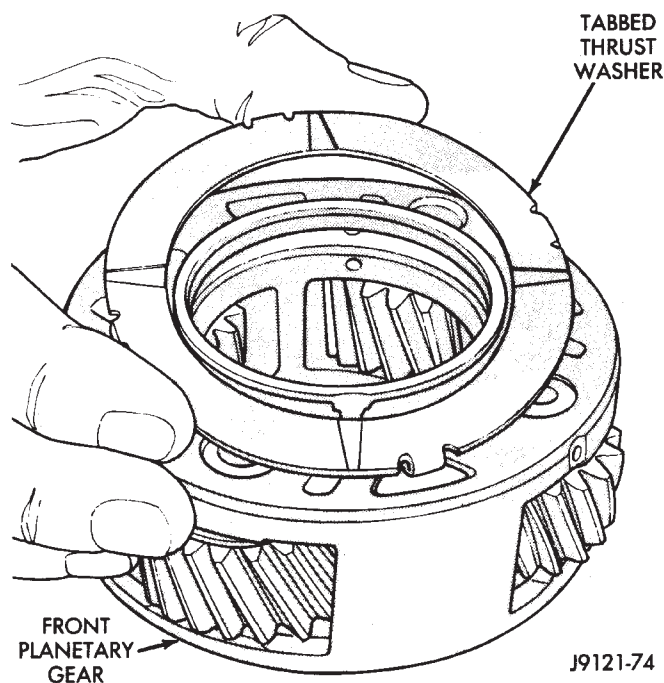

Fig. 186 Installing Thrust Washer On Front Planetary Gear
(10) Install tabbed thrust washer on front planetary gear (Fig. 186). Seat washer tabs in matching slots in face of gear carrier. Use extra petroleum jelly to hold washer in place if desired.